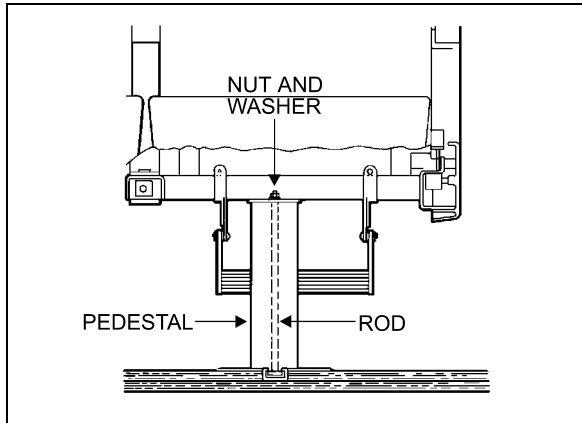

FIGURE 44: SEAT PEDESTAL ASSEMBLY
5. Remove 2 nuts and washers holding seat frame to pedestal rods. See figure 44.